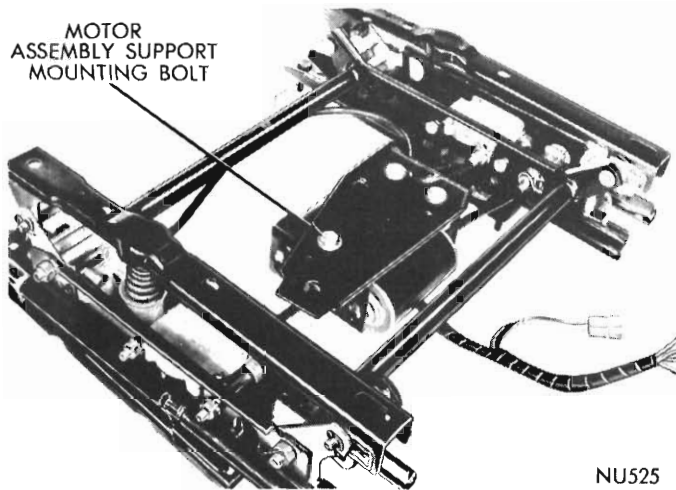
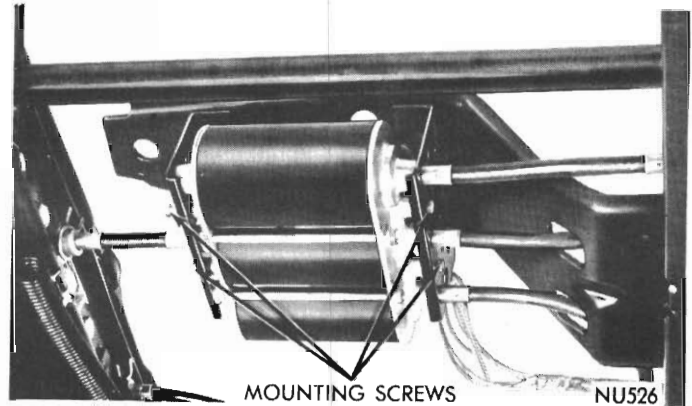

Fig. 53 - Mounting bolt location
Fig. 54 - Mounting screw location
- (3) Remove bolt which holds motor to support (Fig. 53). Then remove mounting (Fig. 54) screws.
- (4) Carefully disconnect housings and cables from motor assembly.